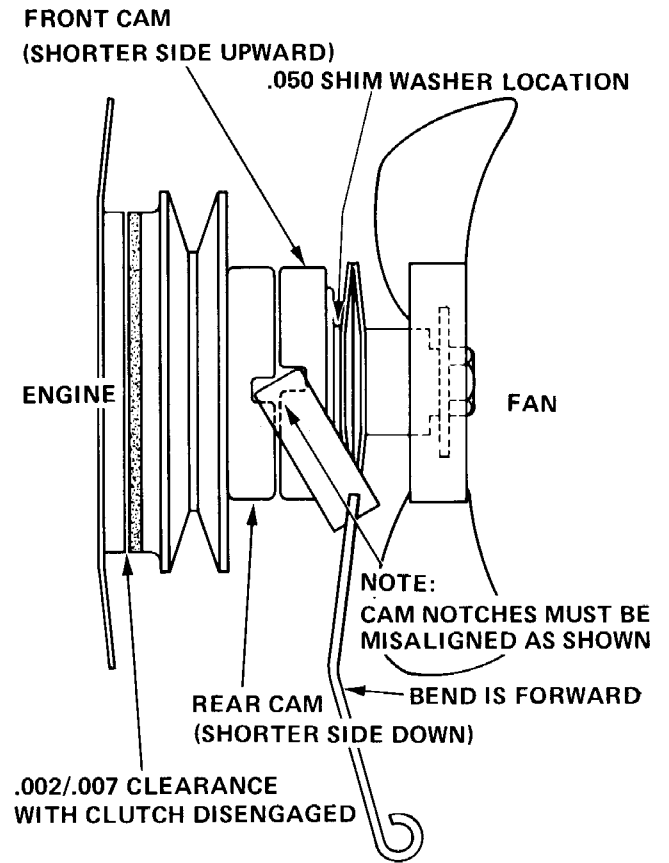

FIGURE 12
1. Fit two springs (12) together and place on drive hub. Install a .050" shim (11), then match the outer two springs and install. Place a second shim (11) on the hub for a total of 4 springs and 2 shims.
2. Place friction disc (6) over the shoulder of clutch pulley (7) and place both on the drive hub.
3. Place original shim stock (9) and (11) on the drive hub.
4. Place the two cam assemblies (2) on the drive hub.
5. See Figure 12. Rotate the cams until the lever notches are misaligned as shown. The inner cam must be positioned so the shorter side is downward and the outer cam must have the shorter side upward.
6. Separate the cams enough to insert the engaging lever (1). The engaging lever must be installed so the bend for the control rod is toward the front of the tractor.
7. Place the two springs (4) dished outward on the drive hub.
8. If the snap ring (5) is to be used rather than the spacer kit (13), compress the load springs enough in a vise to expose the groove.